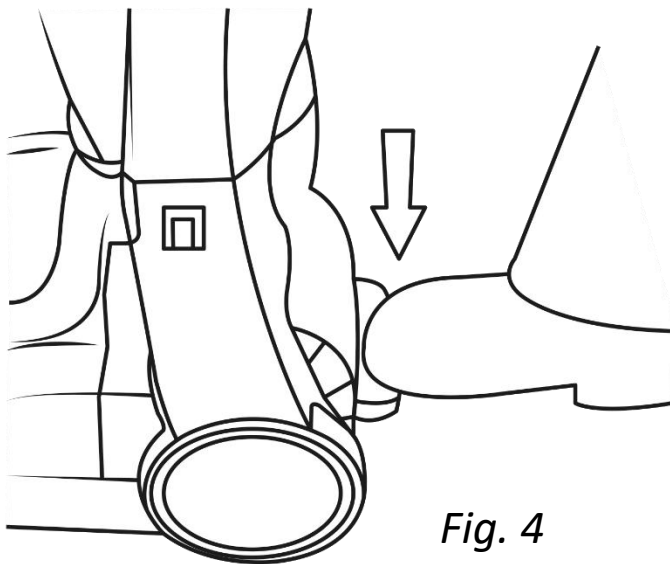

Fig. 4
2. Step on the handle release pedal to lower the machine into the cleaning position [Fig. 4]. While pressing the trigger, pull the carpet washer in a backward motion. Release the trigger and push the unit forward in the same path to agitate and remove dirty water and solution from the carpet. (For heavily soiled areas, repeat if necessary).